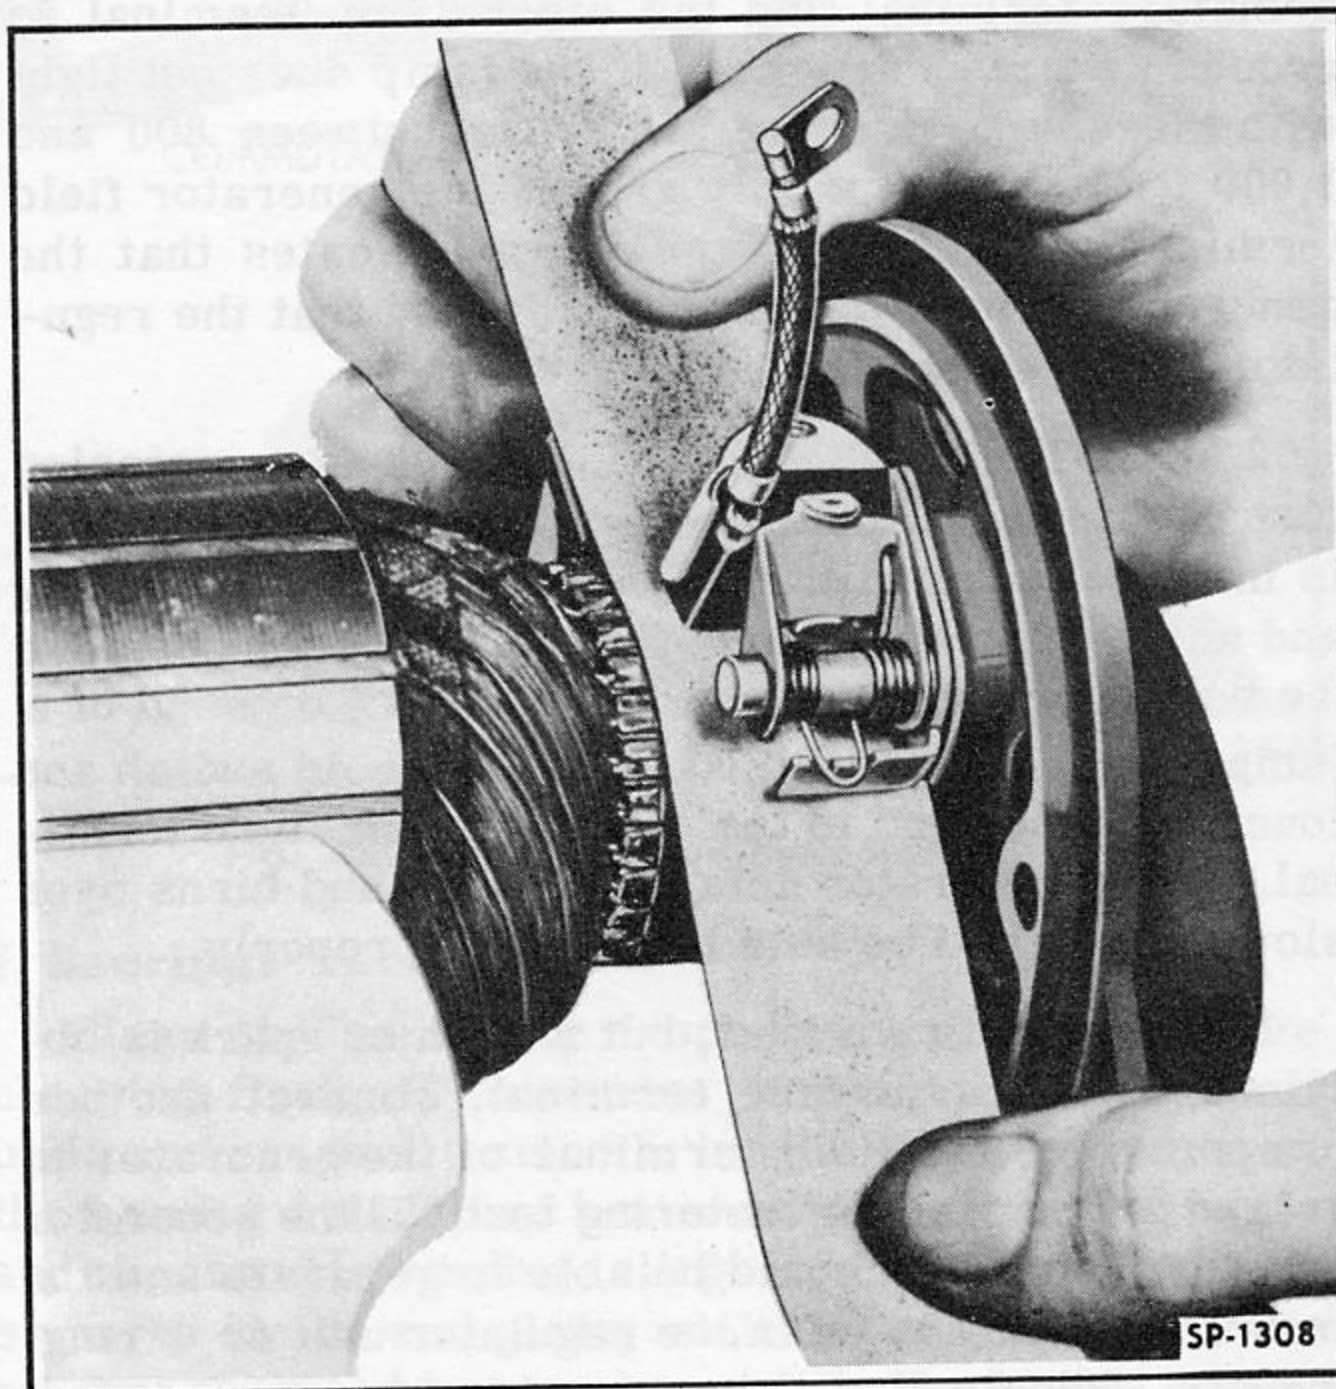

Fig. 264—Sanding Generator Brush
2. INSTALL NEW BRUSHES. Install new brushes with beveled faces seated on the commutator. To fit a brush to the commutator use a strip of 00 or 000 sandpaper, cut the same width as the finished part of the commutator. Lift the brush and slide the paper under the brush, with the sand side toward the brush. Pull the strip in the direction to keep the brush in the normal guided position (Fig. 264). Be careful not to bevel the edge of the brush and do not sand away too much of the end.